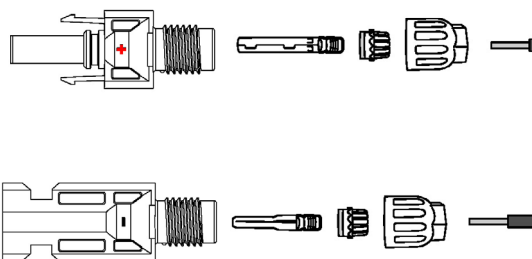

Fig. 38. Disassembling the connector.
- c. Remove the connector from the accessory bag, as shown in Fig. 38: